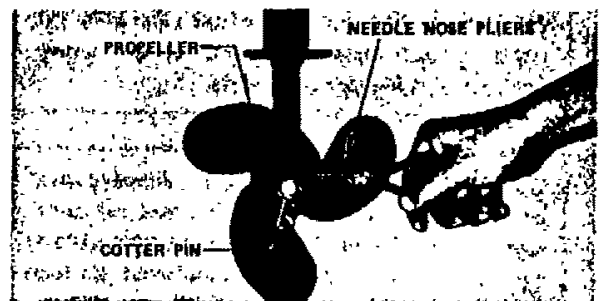

Figure 10
- b. To replace shear pin, shut off motor, remove cotter pin with pliers and slip off propeller. (See Figures 10 & 11).